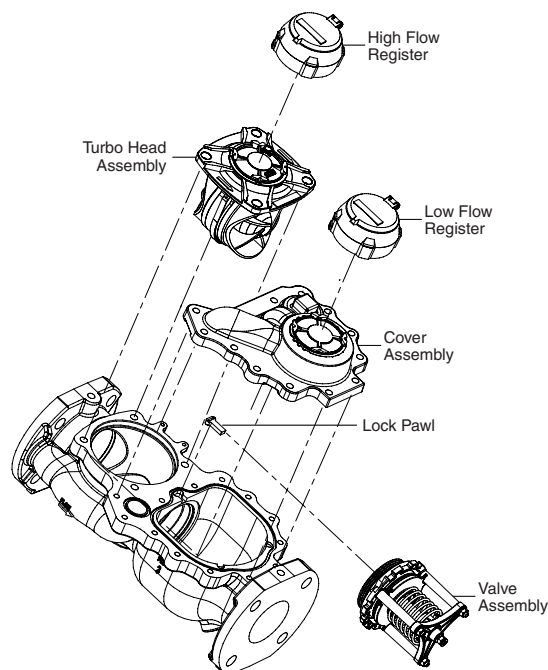

Figure 14: Valve assembly
1. Remove the lock pawl (see Figure 14).